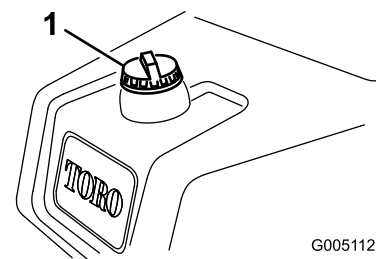

Figure 25
1. Clean around the fuel tank cap and remove it (Figure 25).